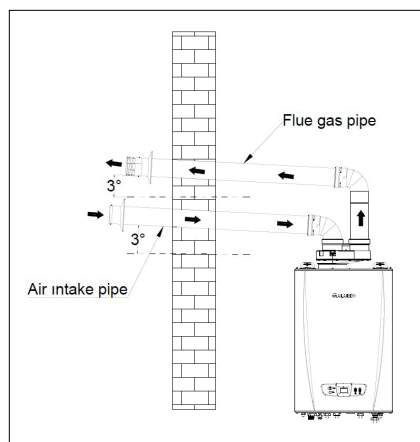

Figure 19. Angles of air intake and flue gas pipes
- Horizontal air intake pipes must slope downwards by 3° at the wall towards atmosphere to prevent the entry of rain water, dust or impurities to the pipe. For horizontal flue gas pipes, situation is different. Flue gas pipes must slope upwards by 3° to facilitate the flow of condensate water in flue back to combustion chamber, to prevent the stalactite formation by freezing in winter and the risk of drop and hurting to walking people (Figure 19). In case of horizontal concentric flues, flue gas pipe (inner pipe) must slope upwards whereas air intake pipe (outer pipe) must slope downwards. Horizontal concentric flue set must be installed parallel to floor. After installation horizontally, flue gas pipe stands slopped upwards by itself as a result of special design (Figure 20).